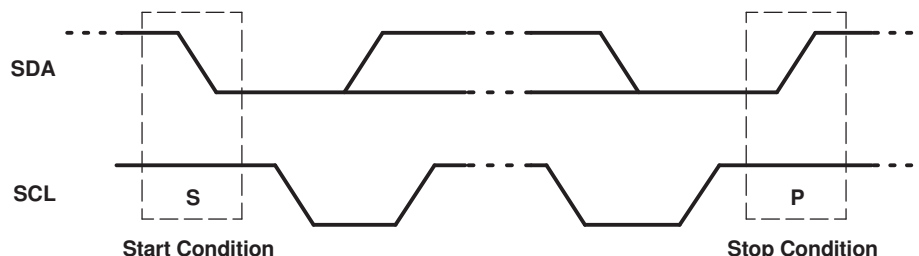

Figure 9. Definition of Start and Stop Conditions
Both data and clock lines remain high when the bus is not busy. A high-to-low transition of the data line while the clock is high is defined as the start condition (S). A low-to-high transition of the data line while the clock is high is defined as the stop condition (P) (see Figure 9).